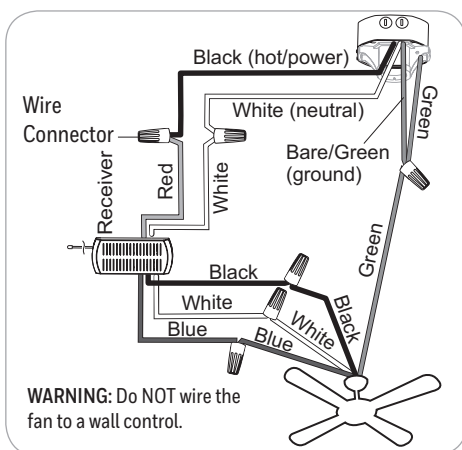

Figure 2.10
10. Use wire connectors to connect household supply and fan wires according to the diagram (Figure 2.10) and the following steps: